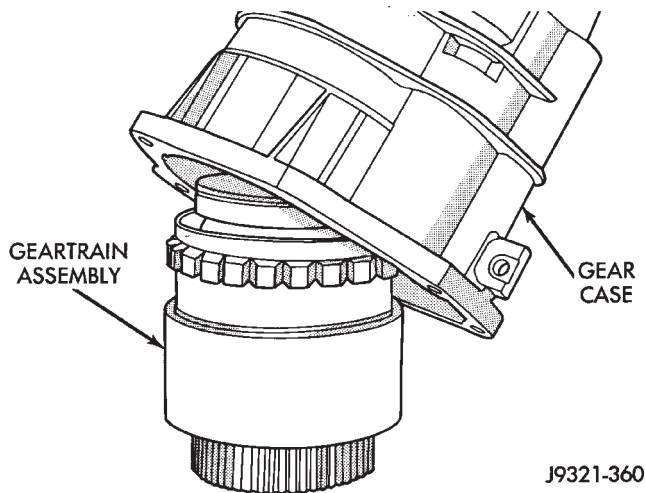

Fig. 205 Removing Gear Case From Geartrain Assembly
(6) Lift gear case up and off geartrain assembly (Fig. 205).